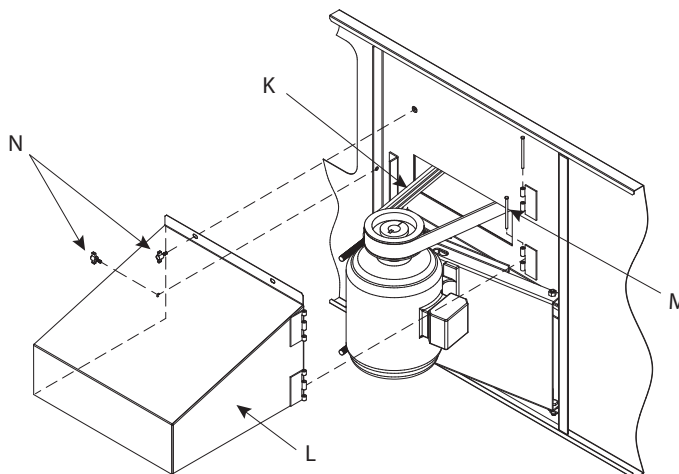

Figure 17b - Motor Guard and Power-Band Belt Installation
7. Install Power-Band belt **K** (Figure 17b) around fan sheave and motor sheave. Tighten belt by adjusting nuts on "J" bolts. Do not overtighten the belts. The center of the belt should deflect approximately 3/4" (19mm) in the horizontal plane with moderate hand pressure.
10. To install motor guard **L**, match up hinges and install hinge pins **M** as shown in Figure 17b.